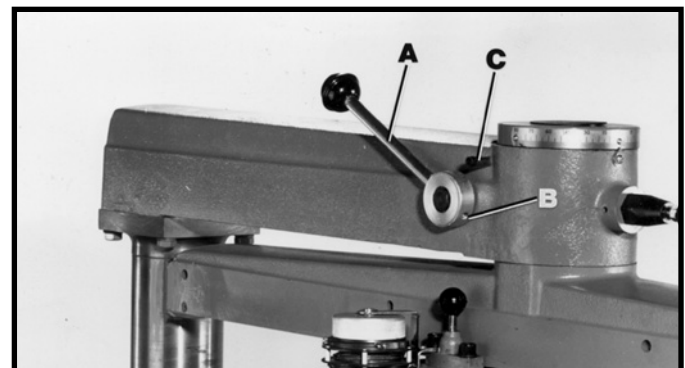

Fig. 7
Assemble track-arm lock handle (A) to the overarm (Fig. 7), and tighten set screw (B). Lock handle (A) should be tight when in the position shown in Fig. 7, and loose when pulled forward and resting against stop (C).